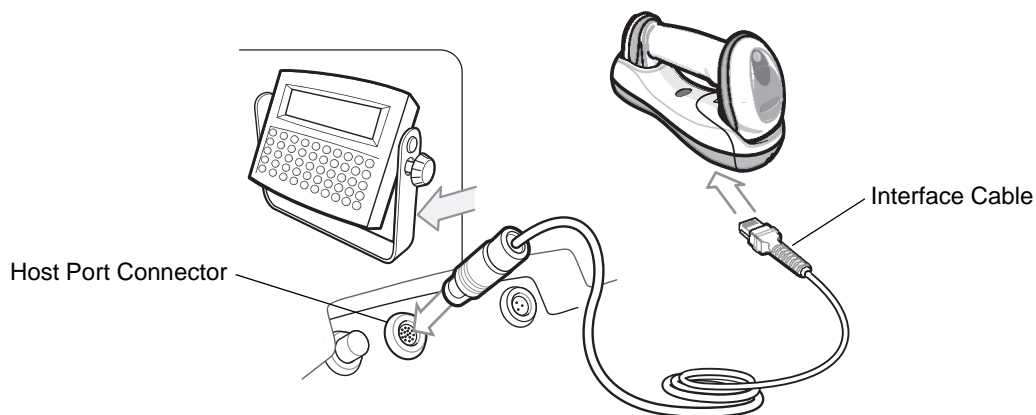

Figure 12-1 Scanner Emulation Connection
- ✓ **NOTE** Interface cables vary depending on configuration. The connectors illustrated in Figure 12-1 are examples only. The connectors may be different than those illustrated, but the steps to connect the cradle remain the same.